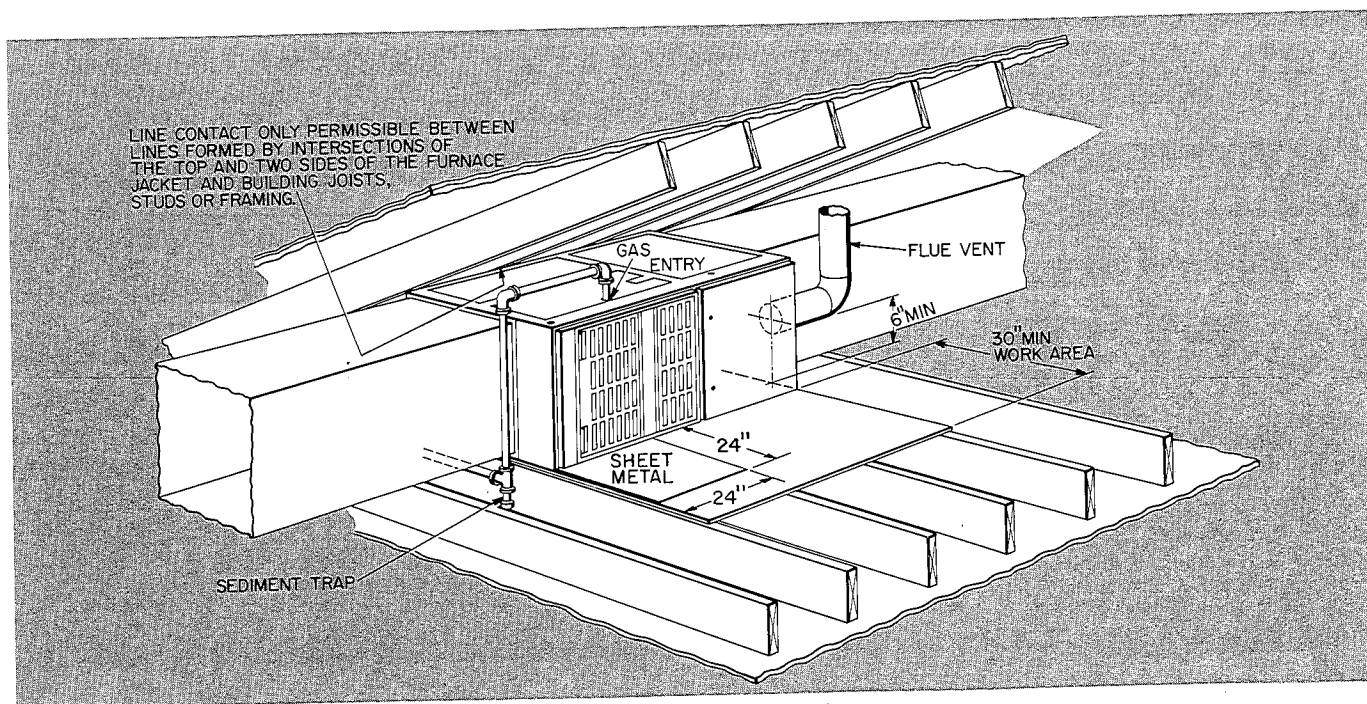

Fig. 8 — Typical Attic Installation
Horizontal Attic Installation — The Model 58DH furnace can be installed horizontally on either the left-hand or right-hand side. A typical attic installation is shown in Fig. 8.
2. Connect gas supply pipe. See Fig. 8 for typical piping entry. It is important to install a sediment trap in the gas pipe riser.
4. Install 24 x 24 in. sheet metal shield on platform in front of louvered control panel. See Fig. 8.